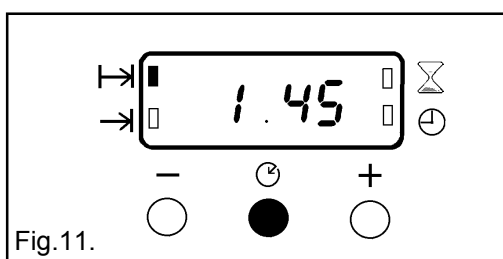

Fig.11.
- vi) To check the 'End Time' during the cooking period, simply press the Selector Control button once and the remaining time will be displayed, as Fig. 11.